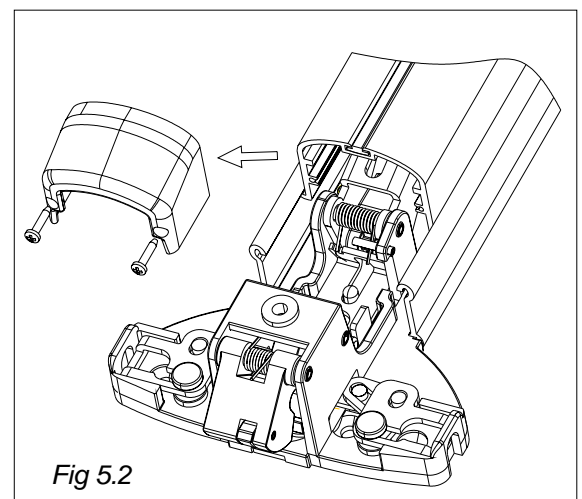

Fig 5.2
- 2) Using a #0 Pozi head driver, remove the two screws from the end of cap at the latch end. (See Fig 5.2)
- f) Refit the front end cap with #0 Pozi head driver. (**See Fig 5.2**)